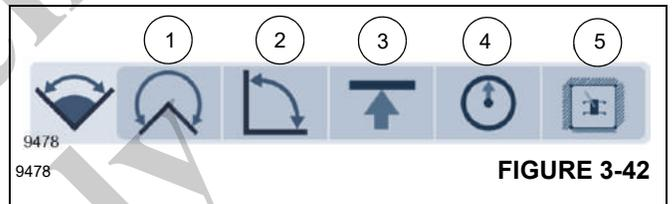

FIGURE 3-42
The Camera Group Menu (4), (Figure 3-39) or (Figure 3-42) includes camera view 1, camera view 2 and/or camera view 1 and 2. Refer to *Camera Group (Optional) Display on ODM*, page 6-15 for additional information.
The WRL Menu Group (Figure 3-42) allows the operator to set limits on the location of the boom. For more information, refer to the *Working Range Limiter (WRL) Menu Group*, page 4-48.